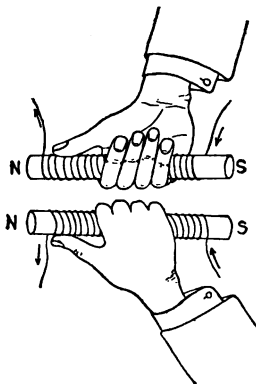

FIG. 199.—THUMB RULE
**224. How to Tell the Polarity of an Electromagnet.** If the coil is grasped in the *right* hand, with the fingers pointing the way the current is flowing, the end where the thumb lies will be the north pole and the other the south pole (Fig. 199). Another way is to look at the magnet endwise. If the current